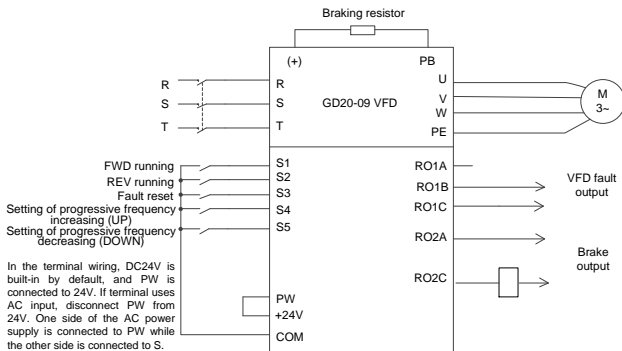

Figure 4-8 Wiring for motor-actuated potentiometer
**Note:** Perform the wiring according to Figure 4-8. If the onsite function terminals are inconsistent with the terminals shown in the figure, manually adjust the input and output terminal functions according to the actual wiring.